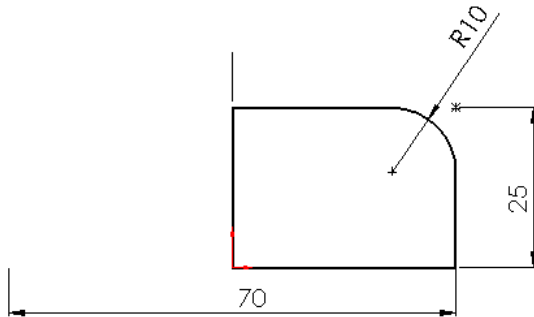

Figure 8-66 Sketch for the base feature
- Create a base feature of the model by revolving the sketch created on the **Front** plane, refer to Figures 8-66 and 8-67.
2. Draw the sketch of the base feature on the **Front** plane and add the required relations and dimensions to the sketch as shown in Figure 8-66.